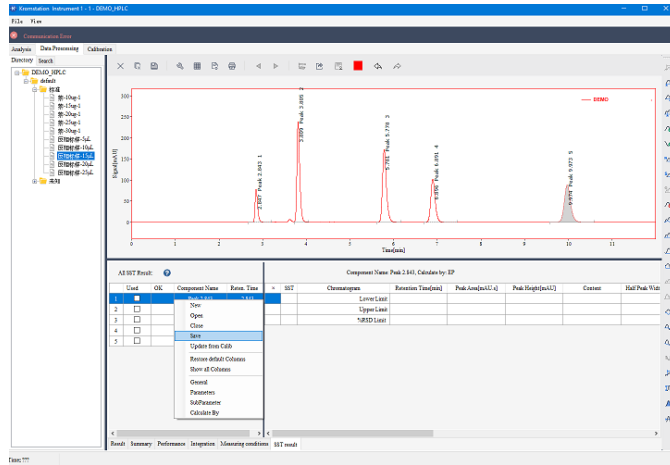

Figure 6-19 Saving SST results
5) In the SST drop-down menu, select "Save" to name the SST result, as shown in Figure 6-19.